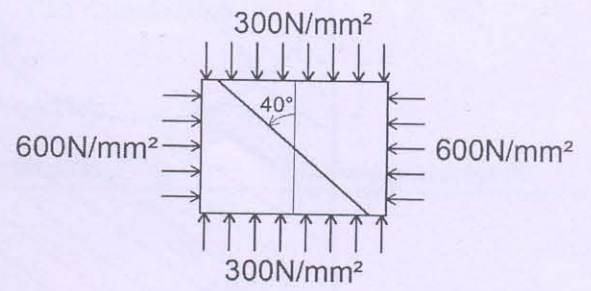

Fig. 2
- (b) A point in a strained material is subjected to the stresses as shown in **Figure 2**. Find Normal (p_n), Tangential (p_t) and Resultant (p_r) stresses on a plane inclined at 40° with vertical as shown in Figure 2. Also find maximum Tangential stress ($p_{t \max}$). Use both Analytical and graphical method.